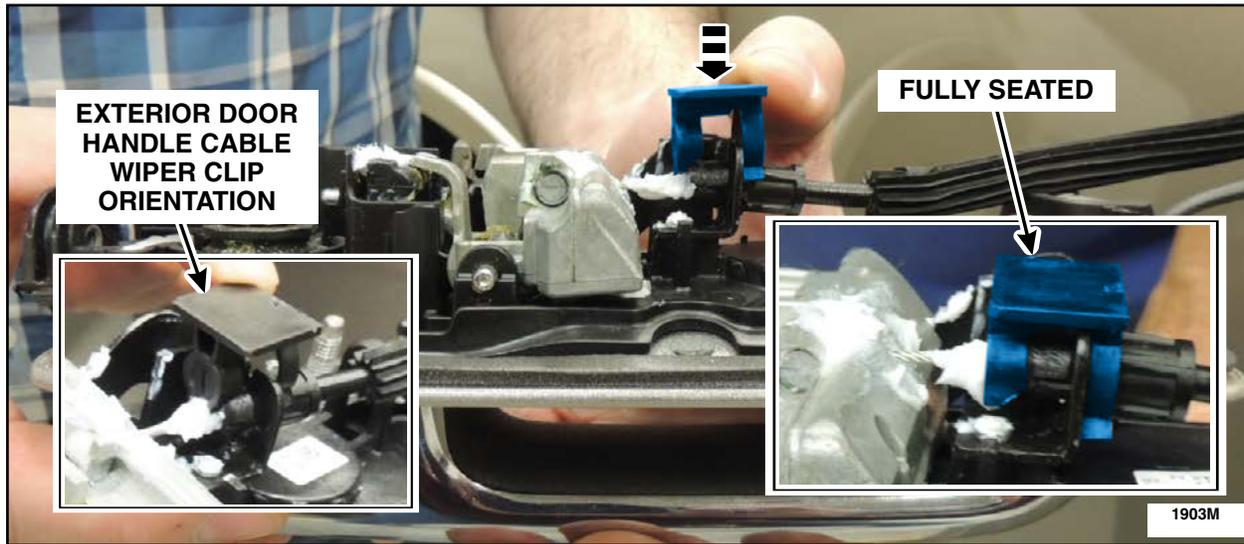

FIGURE 65
38. Install a *new* handle cable wiper clip on the exterior door handle cable end. See Figure 65.